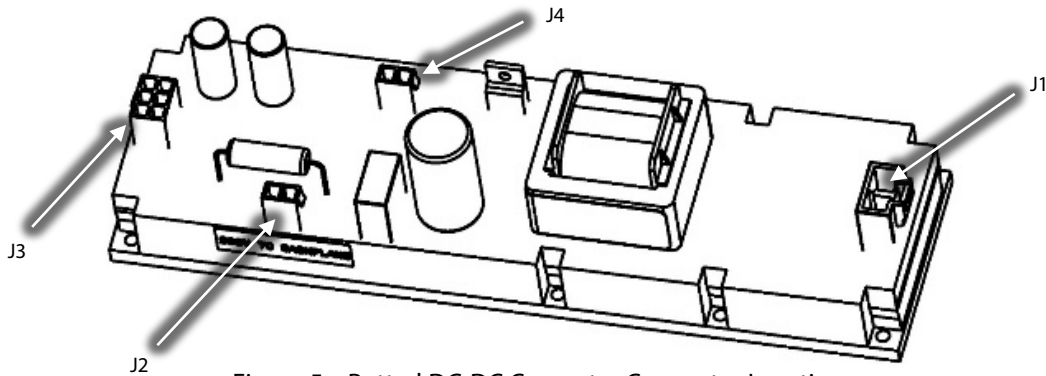

Figure 5 – Potted DC-DC Converter Connector Locations
1. Remove the four (4) connectors (DC Bus Input (J1), 250VDC (J2), 24VDC (J3), and 15VAC (J4)) from the DC-DC Converter. Refer to Figure 5 (Potted DC-DC Converter Connector Locations).